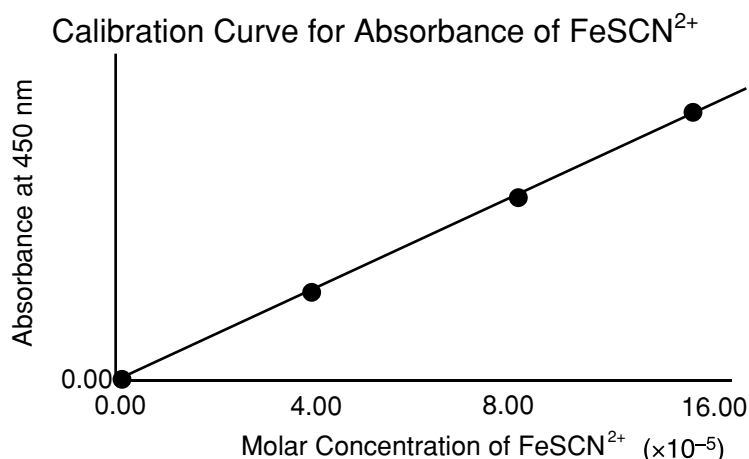

Figure 1. Sample Graph of Absorbance versus Concentration of $FeSCN^{2+}$
1. Plot molar concentration of $FeSCN^{2+}$ versus absorbance as shown in Figure 1, and draw the best-fitting straight line through the data points. Include the origin (zero absorbance for zero concentration) as a valid point.